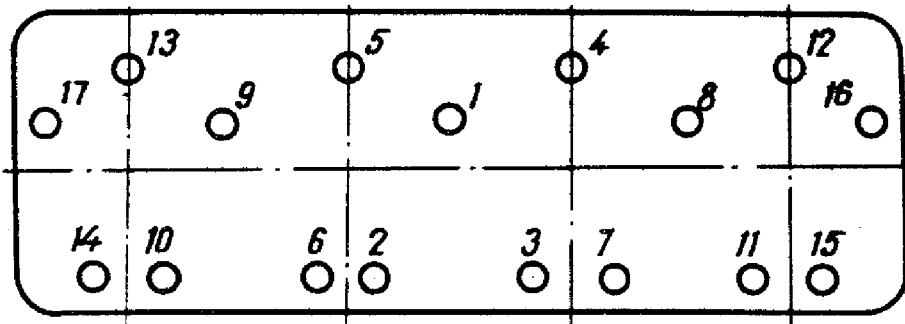

FIG.9. SEQUENCE OF TIGHTENING CYLINDER HEAD BOLTS
6. On a new truck, when preventive maintenance No.1 is performed for the first time, check the tightness of the bolts (Fig.9) fastening the cylinder block heads and the intake and exhaust manifolds. After that, the bolts should be tightened up only during PM No.2.